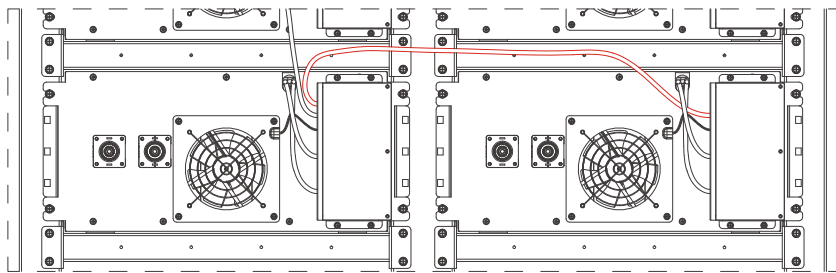

Figure 2.8
(4) Sixth and seventh battery box BMU communication connection (Figure 2.8).